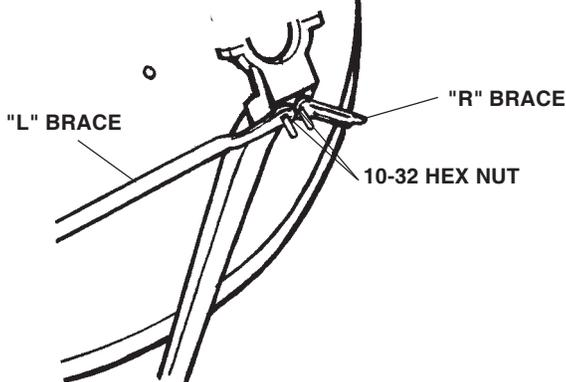

FIGURE 4
STEP 5: Attach lower half of feed clamp to feed arm with screws only. See Figure 3. Attach feed arm braces to reflector and feed arm. Leave hex nuts slightly loose at this time. See Figure 4 and 5. LNBF not shown for clarity.